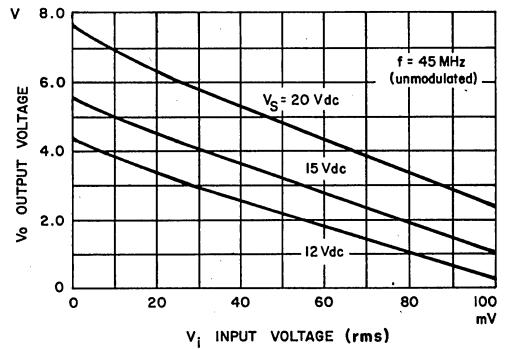

FIGURE 4 - OUTPUT VOLTAGE
1. As FIG. 4 shows, the linearity of output voltage is excellent. It can also be seen that as the slopes are parallel the video amplitude will not change with supply voltage variations.